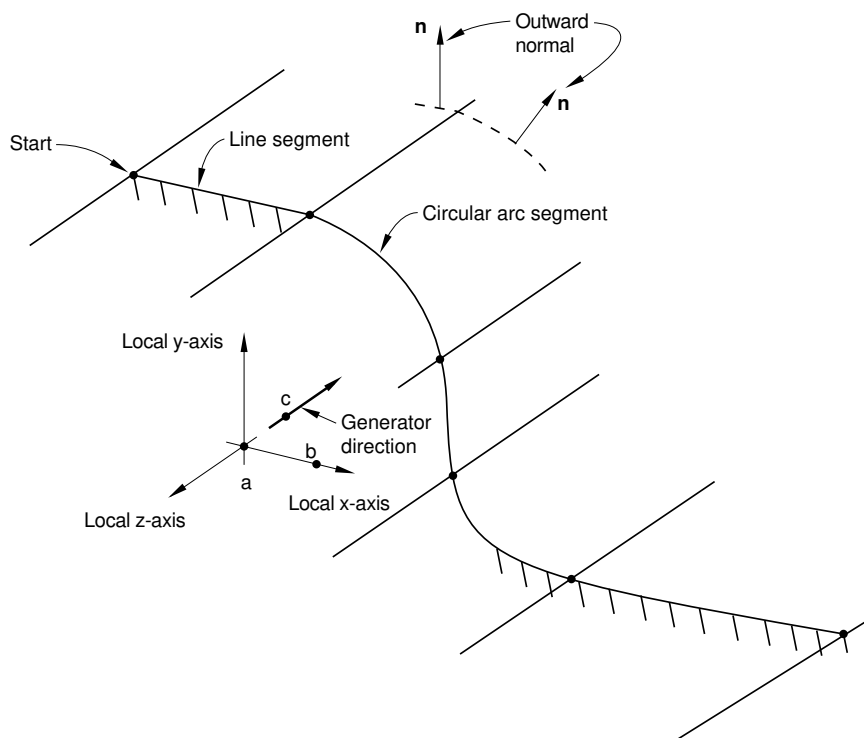

Figure 1: *RIGID SURFACE, TYPE=CYLINDER.
1. Global X-coordinate of point a , the origin of the local (x, y) system (see Figure 1).